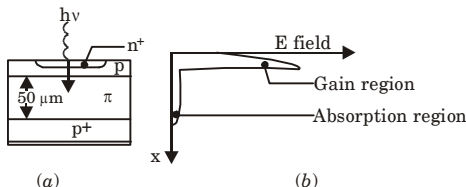

Fig. 8. (a) Structure of a silicon RAPD. (b) The field distribution in the RAPD showing the gain region across the $p-n^+$ junction.
- The silicon reach through APD consist of $p^+-\pi-p-n^+$ layers as shown in a Fig. 8.
- In the Fig. 8(b), the high field region where the avalanche multiplication takes place is relatively narrow and centred on the $p-n^+$ junction.